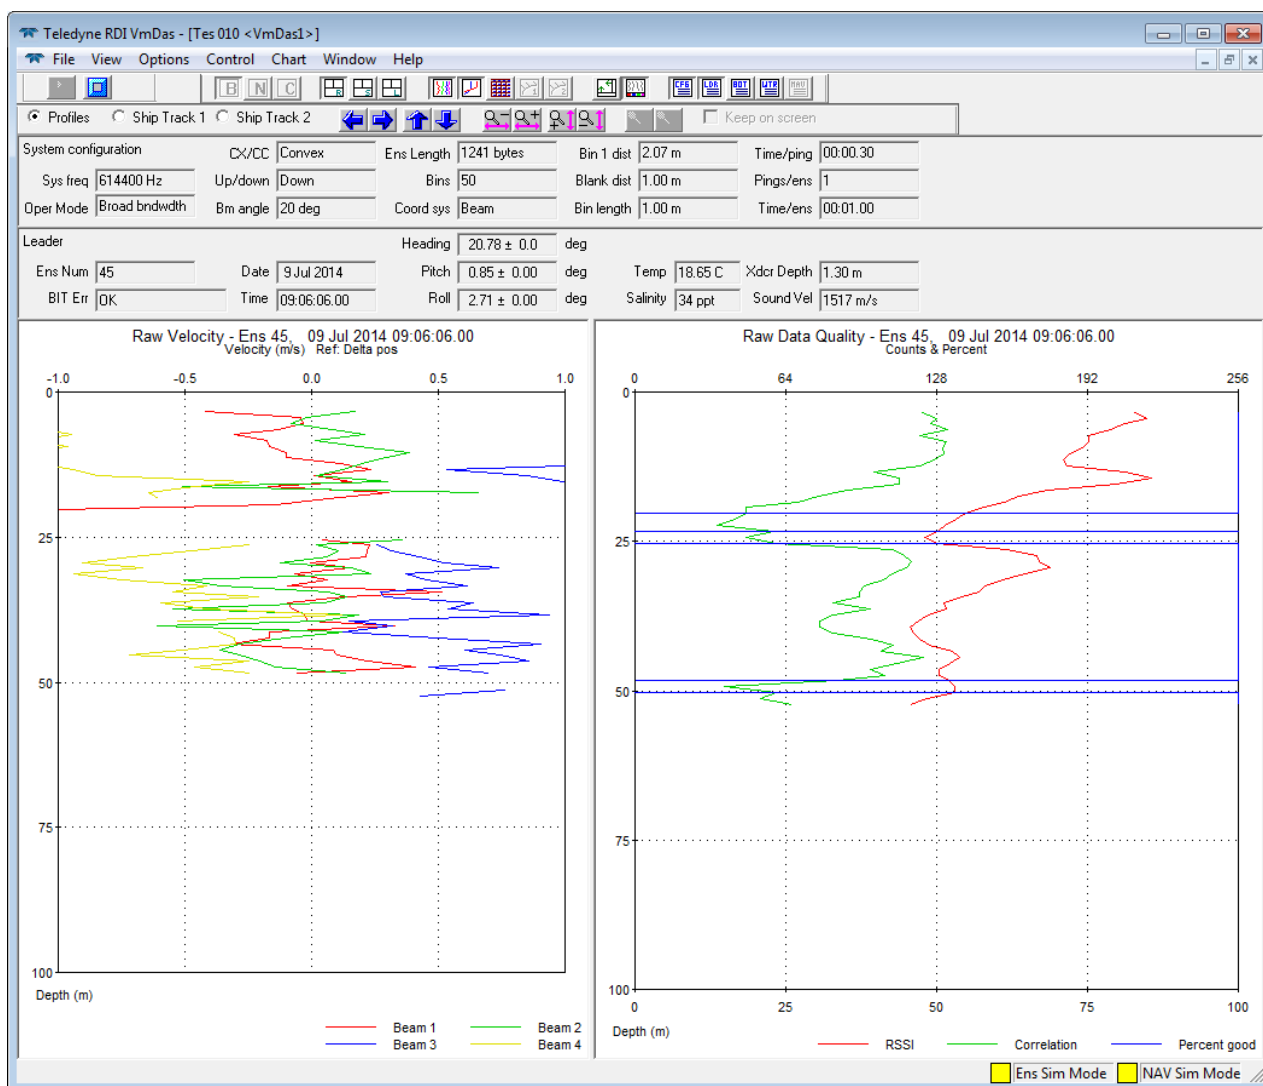

Figure 5: VmDas screen layout during data collection (raw display mode)
4. After checking the settings carefully, **start the data acquisition**. Select the menu **File** → **Collect Data** or press the  button at the upper left of the main window. The data recording starts immediately and the screen looks about the same as the screenshot in Figure 5.